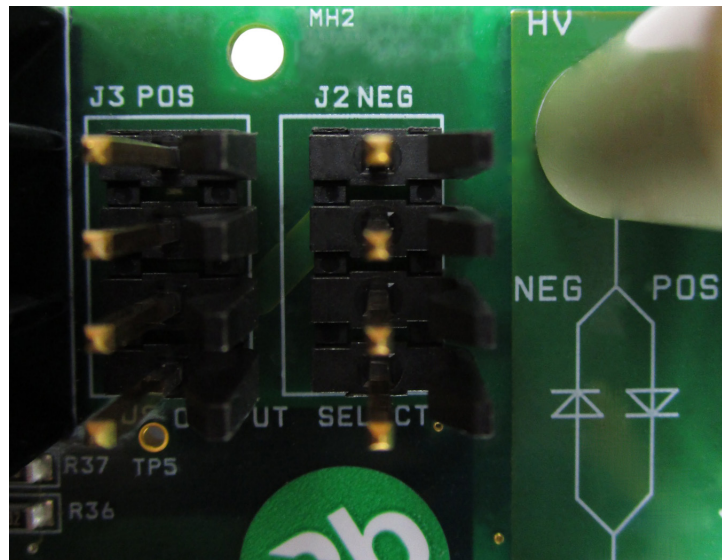

Figure 5. 4-pin header and HV diode diagram
8. Locate the J2 NEG and J3 POS 4-pin header. As shown in **Figure 5**, both headers are the electrical components next to the heat sink.
11. Re-install the HV diode in the proper direction according to the diagram printed on the board directly below the HV diode (see **Figure 5**)